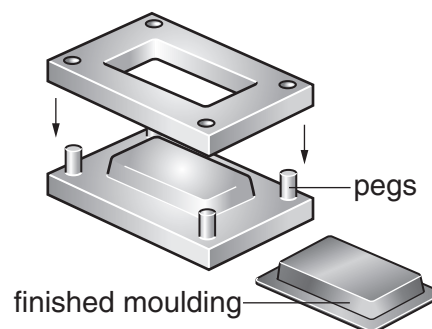

Fig. 4
- 6 Fig. 4 shows equipment used in a moulding process.
- (a) Name the moulding process shown in Fig. 4.